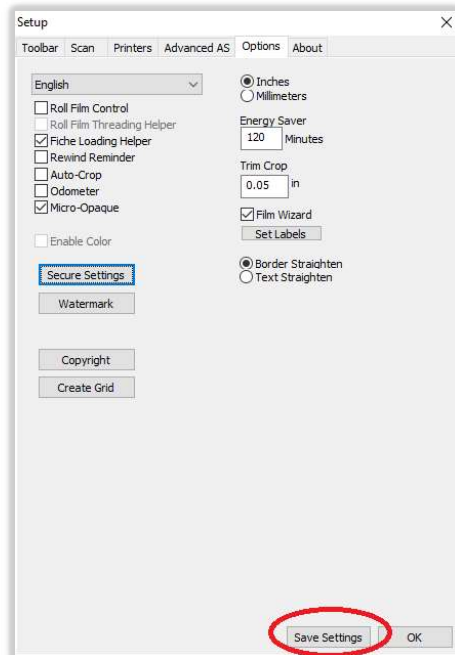

Figure 84
- y. Click the *Save Settings* button of the setup window to name and save this new preset. *Figure 84*